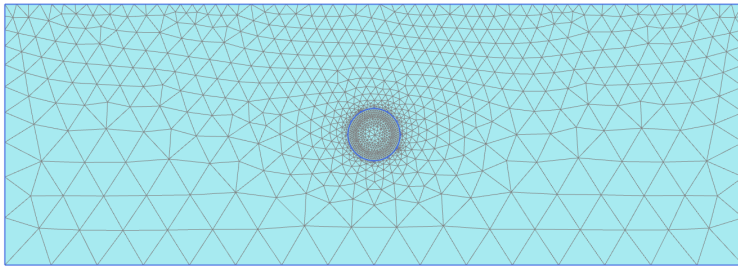

Figure 16.4 The generated mesh
-  View the generated mesh. The resulting mesh is shown in Figure 16.4.